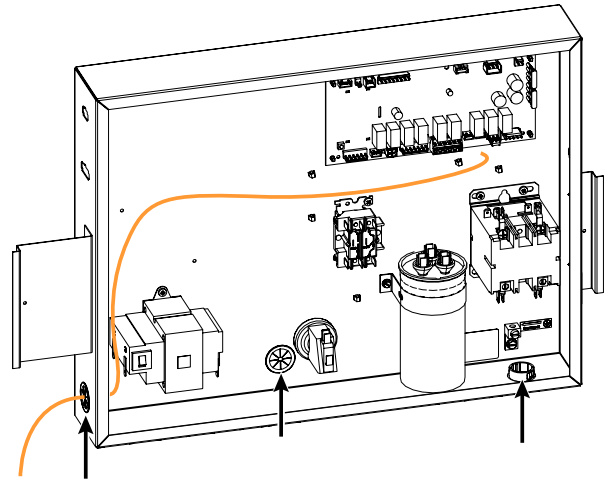

Figure 135. Grommets in Control Box
7. Use the grommets in the control box to run wires from inside the corner post to the inside of the box, up to the control board terminal(s). See Figure 135.